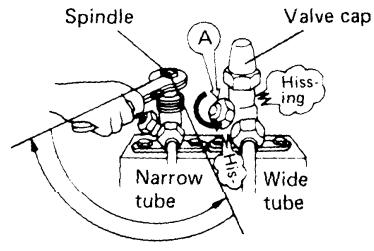

Fig. 33
- b) Loosen the flare nut **(A)** of wide tube by 180 degrees (1/2 turn). Fig. 33